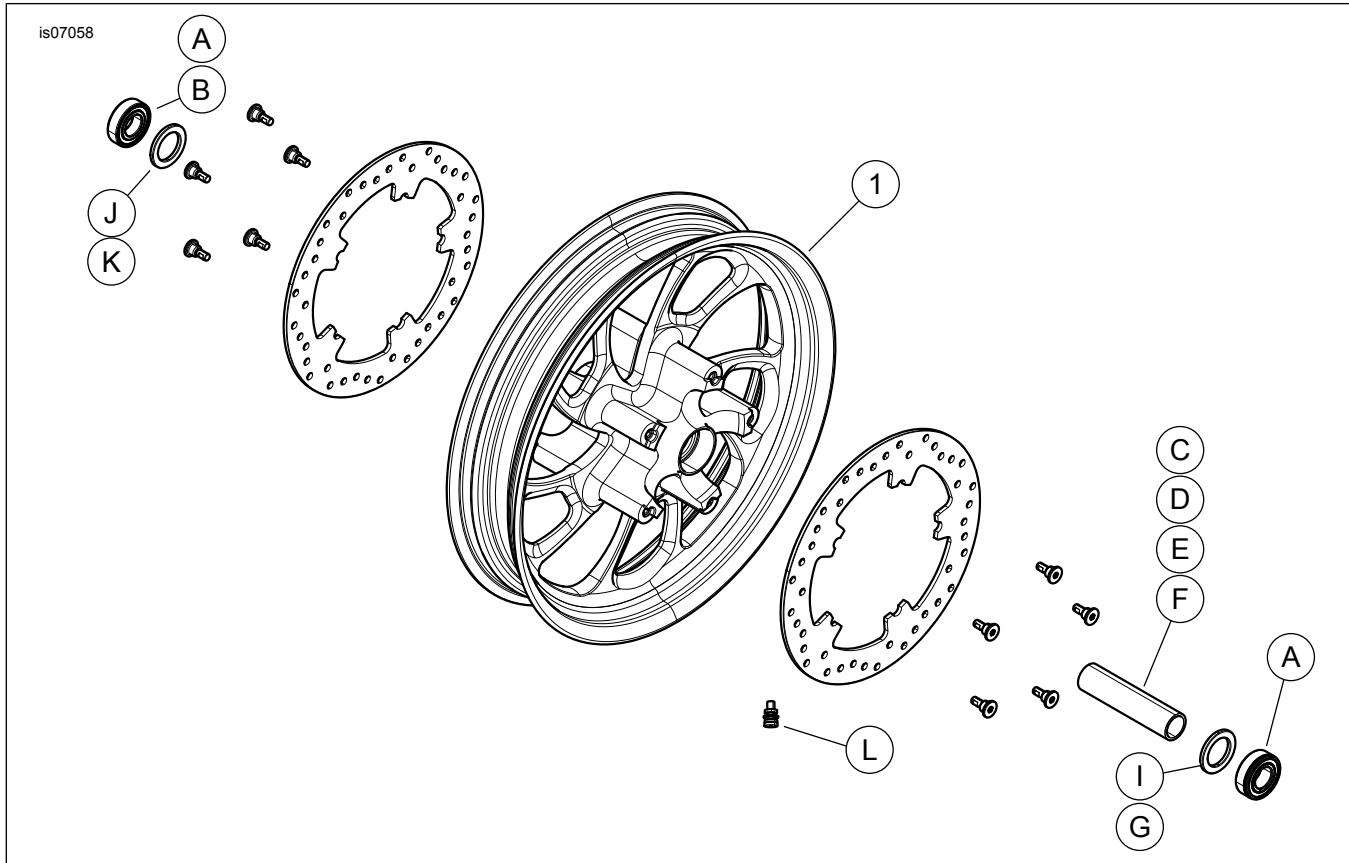

Figure 1. Service Parts: Blade Front Wheel Kits
2. See Figure 1. Install valve stem assembly (L ) on wheel. Refer to TIRES in service manual.